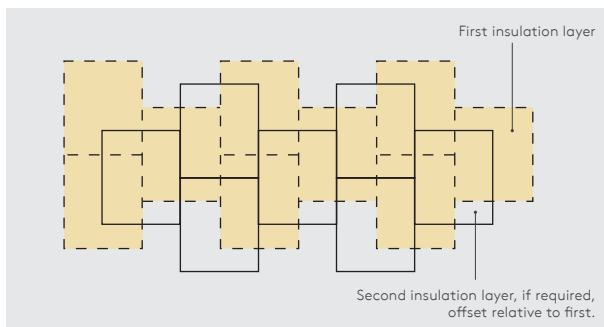

Figure 2 - Offsetting of multiple insulation layers
- In all cases, the layers should be horizontally offset relative to each other so that, as far as possible, the slab joints in the two adjacent layers do not coincide with each other (see Figure 2).